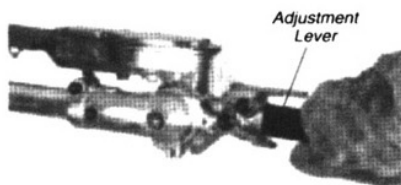

Figure 1
1. With your right hand, grasp the handle, located immediately aft of the hand guard. With your left hand, grip the adjustment lever on the cutter assembly. See Figure 1.